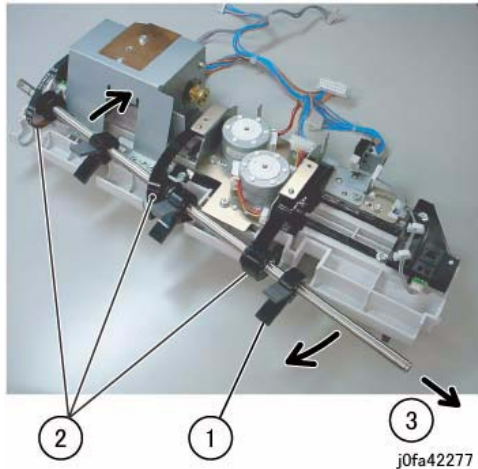

Figure 6 Removing the Set Clamp Shaft (j0fa42277)
8. Remove the Set Clamp Shaft. (Figure 6)